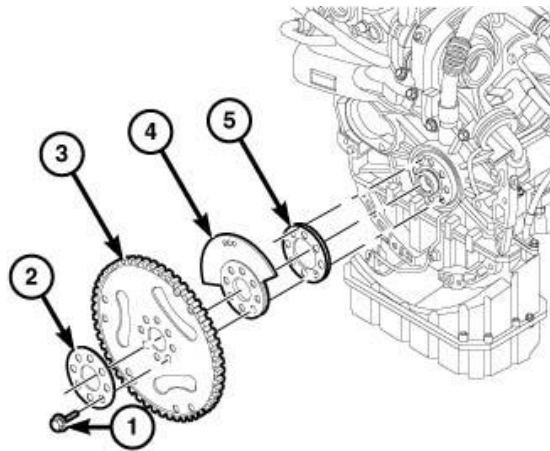

Figure 49 – Flexplate Removal
105. Remove the bolts (1), the backing plate (2) and the flexplate (3) (Figure 49).
107. Remove the counterweight (4) and tone wheel (5) (Figure 49).
1. Install the **NEW** tone wheel 68493358AA (5) (Figure 49).
2. Install the counter weight (4) and make sure the dowel pin side is inserted into the crankshaft hole for proper counter weight timing. A vibration can occur if the counter weight is installed incorrectly (Figure 49).
4. Lubricate and install the backing plate (2) and tighten the **NEW** bolts 68161231AA (1) finger tight (Figure 49).